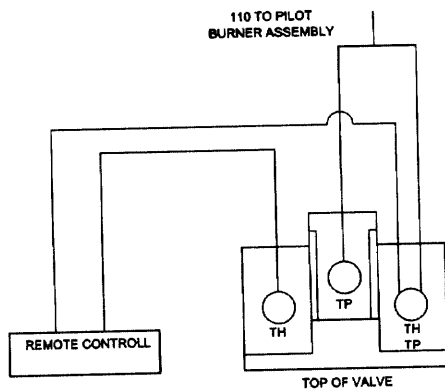
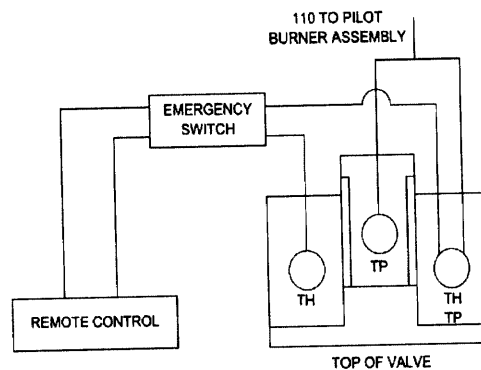

Figure 2
Figure 3
5. Connect the black wires labeled "Main Valve" to the Millivolt generator or Millivolt valve (see Fig.2) or the Emergency Switch (Fig.3). Switch the Emergency Switch to OFF position if it is installed. Use the Emergency Switch only during a power failure.